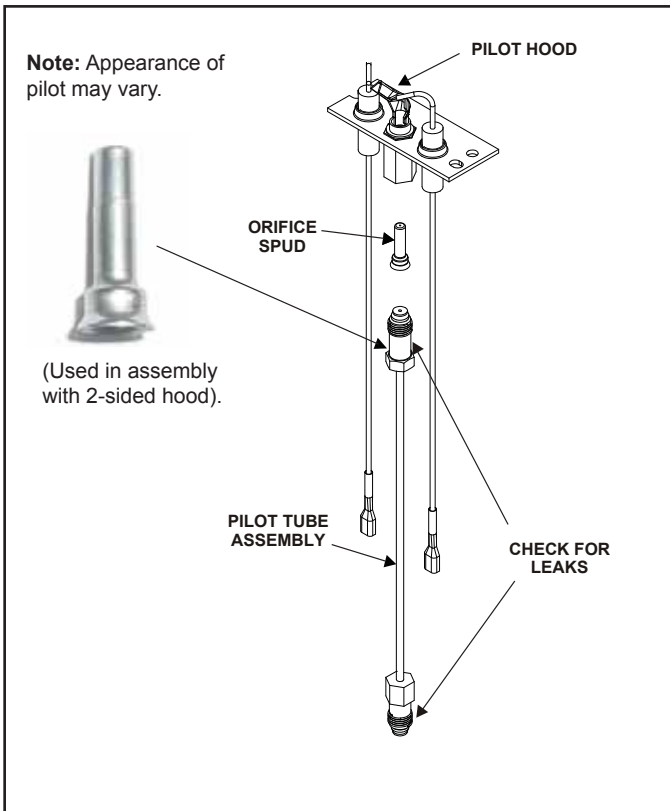

Figure 2
9. Unscrew the pilot tube fitting on the pilot and replace the orifice spud with the one included in the conversion kit. See Figure 2.
16. Use a commercially available, non-corrosive leak check solution to test for leaks around the pilot. Be sure to rinse off all leak check solution following testing. See Figure 2 for leak check points. Extinguish the pilot.